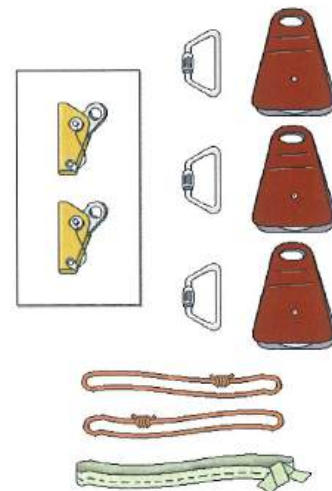

Figure 8-3
- The equipment required for the construction of the mechanical advantage system is commonly carried in a pocket in one of the two rope bags, bagged separately, or preassembled and attached to a lifeline in a separate rope bag. (Figure 8-3)